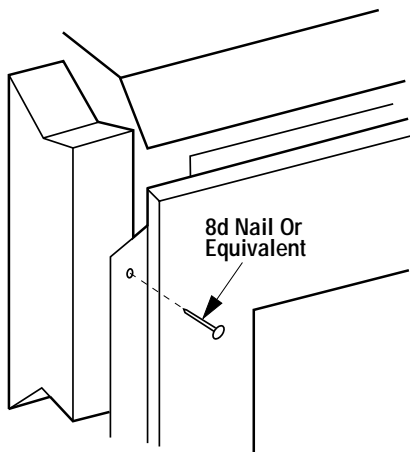

Figure 17
Step 7. Cut or frame hole through the outside wall for the installation of the duct inlet hood. A 4-1/4" (114 mm) diameter hole is sufficient. Feed the loose end of the flexible air duct through the hole cut for the inlet hood and attach to collar on inlet hood using two (2) screws. Insert hood into opening. Secure in place with nails driven through holes in hood flange. Seal with noncombustible waterproof silicon type caulking. If additional air duct is needed, use Class 0 metallic air duct.
Step 8. Fireplace should be secured to side framing members using the full length nailing tabs at the top and bottom of the fireplace front face. Use 8d nails or equivalent (Figure 17).